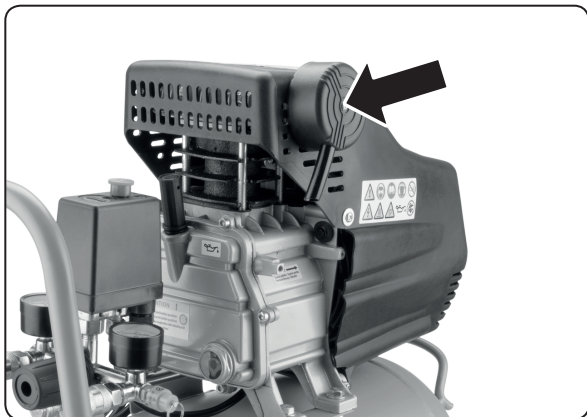

Fig. 4
5) Screw the air filter into the suction hole for air flowing to the cylinder, see fig. 4.